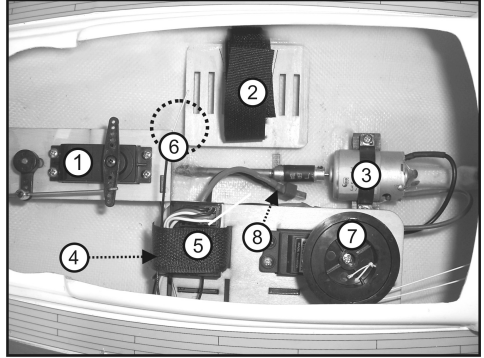

Figure 4
- Figure 4 shows the steering servo (1), the holder of the drive battery (2), the drive motor (3), the speed controller (4; concealed), the receiver (5), the receiver aerial (6), the sail winch servo (7) and the connection plug of the speed controller (8).
- Figure 4, item 5 shows a possible installation site for the remote control receiver. The receiver can be attached with hook-and-loop tape or a cable tie.
- The receiver aerial (6) can be attached, e.g.
After you have activated your transmitter and installed and connected the drive battery in the model on the intended holders (also see figure 4), your model is ready for operation. The sail winch should not start up or hum at this moment. The motor must not start up either.